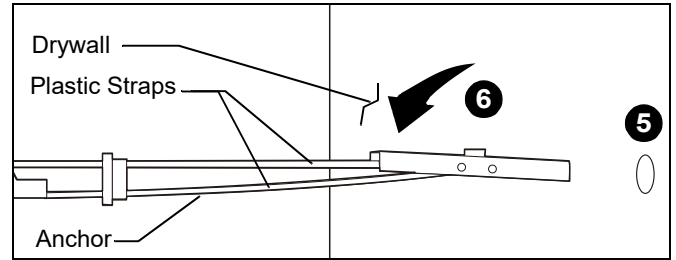
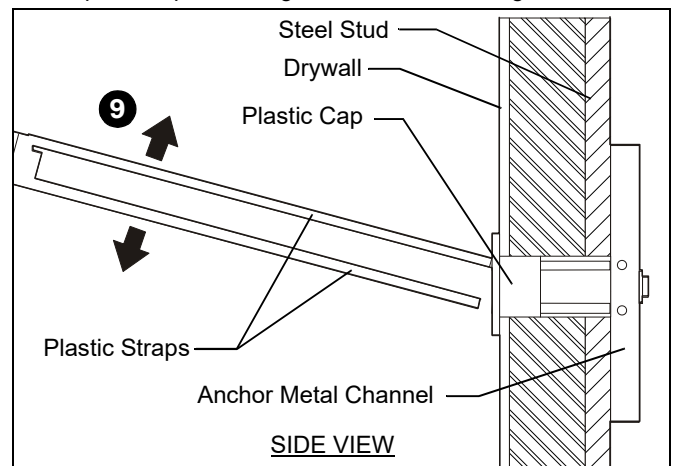

Figure 4
Figure 6
4. Using a level, mark the wall on each stud to attach the mount through the mounting slots. (See Figure 6)
5. Drill four 1/2" (12.7mm) pilot holes (one in each stud) at the site of the upper and lower mounting holes. (See Figure 4) and (See Figure 6)
6. Hold metal channel on anchor (Q) flat alongside plastic straps and slide channel through hole. (See Figure 4)
9. Snap off plastic straps on anchor (Q) at wall by pushing side to side, snapping off straps level with flange of plastic cap. (See Figure 6)